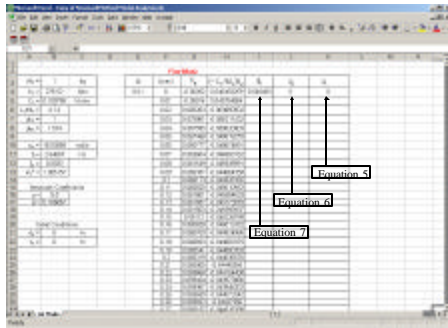

Figure 4: Spreadsheet After Completing Step 4
(A) The Initial Relative Displacement and Relative Velocity are known from the initial conditions (Fig. 4).
(B) The Initial Relative Acceleration (Fig. 4) is calculated using